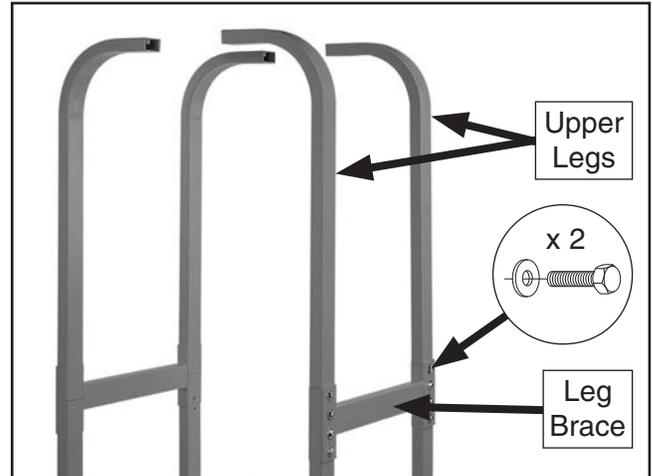

Figure 15. Upper legs installed.
- Attach (2) upper legs to each brace (see **Figure 15**), then finger-tighten each upper leg with (2) $\frac{5}{16}$ "-18 x $\frac{3}{4}$ " hex bolts and (2) $\frac{5}{16}$ " fender washers.